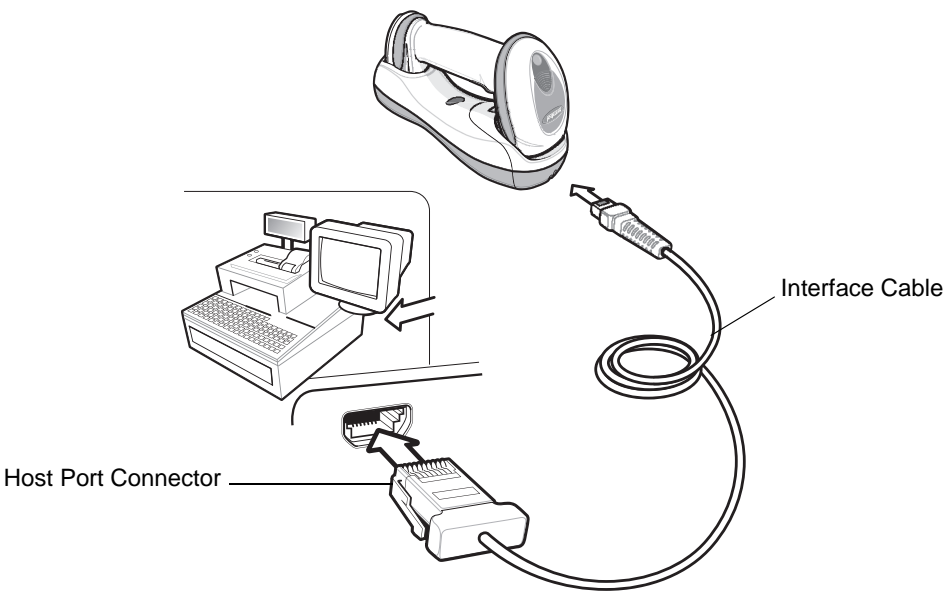

Figure 9-1 IBM Direct Connection
- ✓ **NOTE** Interface cables vary depending on configuration. The connectors illustrated in Figure 9-1 are examples only. The connectors may be different than those illustrated, but the steps to connect the cradle remain the same.